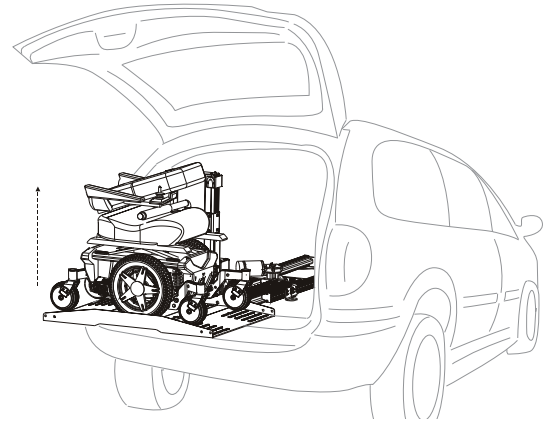

Figure 3-5
5. Double-check that the mobility device is secured properly on the platform. While holding the hand control, stand to the side and away from the lift. Press the "Up" button. When the platform stops retracting, release the button. The platform will automatically lock itself into a travel position. Close the door slowly, making sure that no part of the mobility device or other objects in the cargo area contacts the door. **See Figure 3-5.**